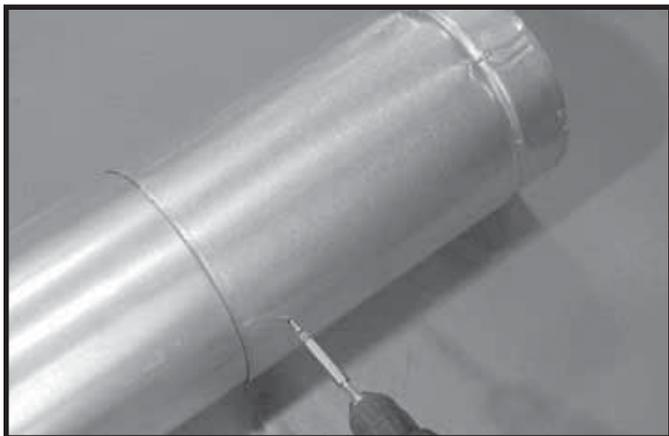

Figure 10.4 Screws into Slip Section
- Secure the pipe and slip section with two screws no longer than 1,3 cm, using the pilot holes in the slip Section. See Figure 10.4.